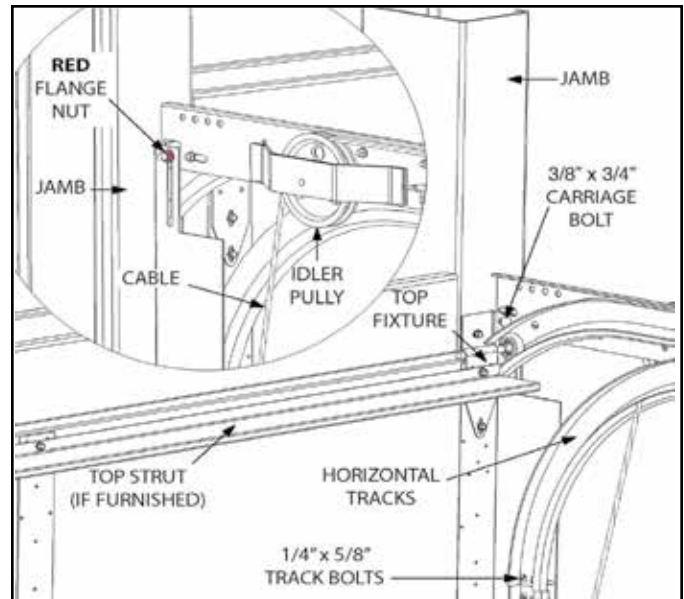

Figure 45
2. Leave the top strut off until the door is complete and the LHR top fixtures are adjusted to their final position. Fig. 45 shows a final assembly.